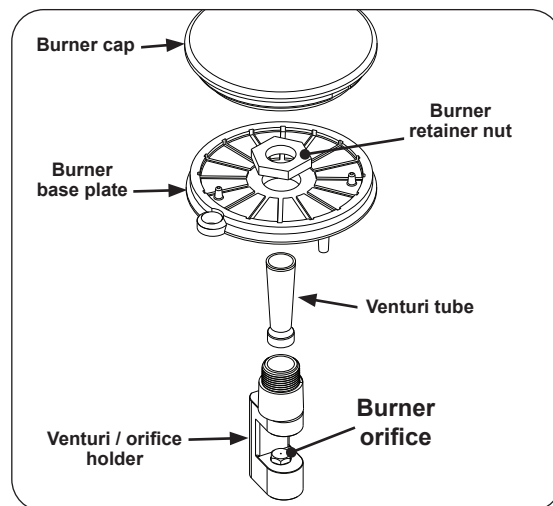

Fig. 32-1 Burner details
2. Remove the retainer nut using an adjustable wrench (see Fig. 32-1).
3. Remove the burner base plate and the venturi tube (see Fig. 32-1).
4. Carefully lift out the entire side burner body from the enclosure and carefully set it on its side to access the venturi/orifice holder. See Fig. 32-1.